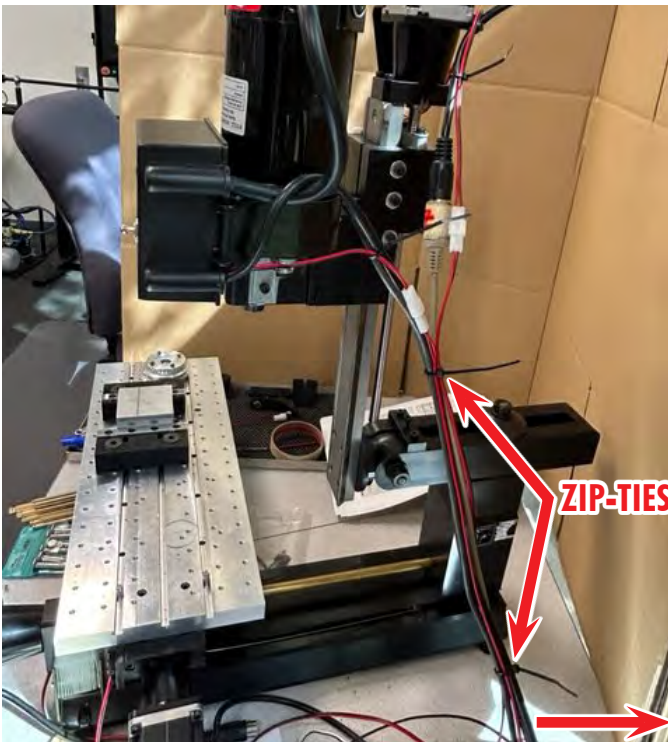

FIGURE 34
- iv. **Securing the Cables:** Zip-tie the speed control/encoder cable bundle to the Z-axis stepper motor/limit switch bundle and rout them to the rear of the machine. This should keep all of these cables away from the work area (see Figure 34).